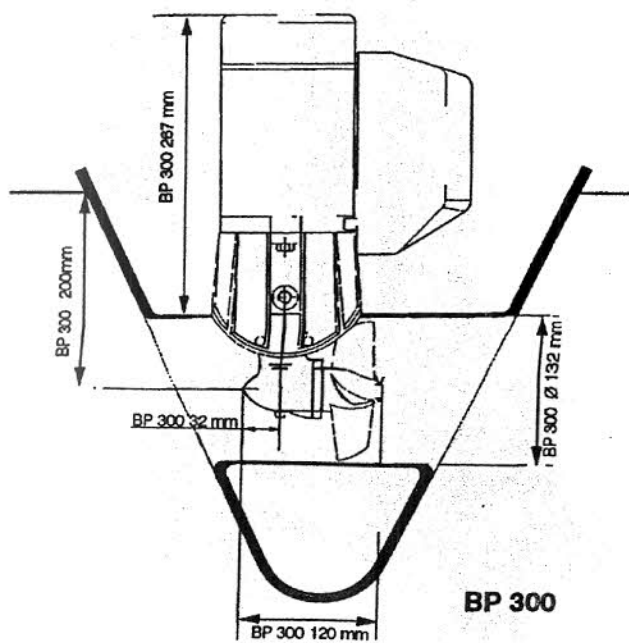

fig. 1
1. Decide the position for the bow thruster, see the dimensional drawings fig.1 and 2.